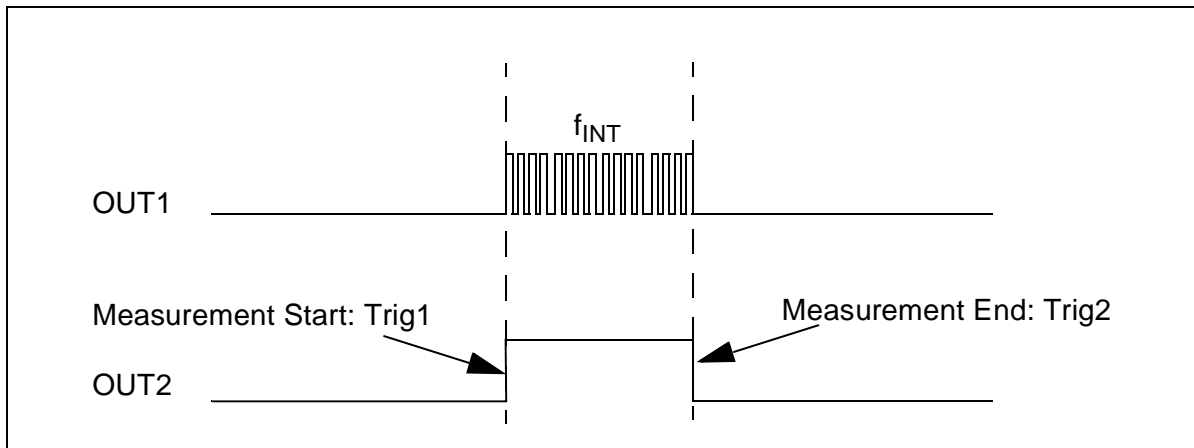

Figure 20: Timing Measurement Mode
- **Timing measurement mode** (see *Figure 20*) allows you to measure the time elapsed during a subroutine for example, using an oscilloscope connected to OUT1. In this case, output OUT2 is SET on a user-defined address (Trig1), and RESET on another one (Trig2).